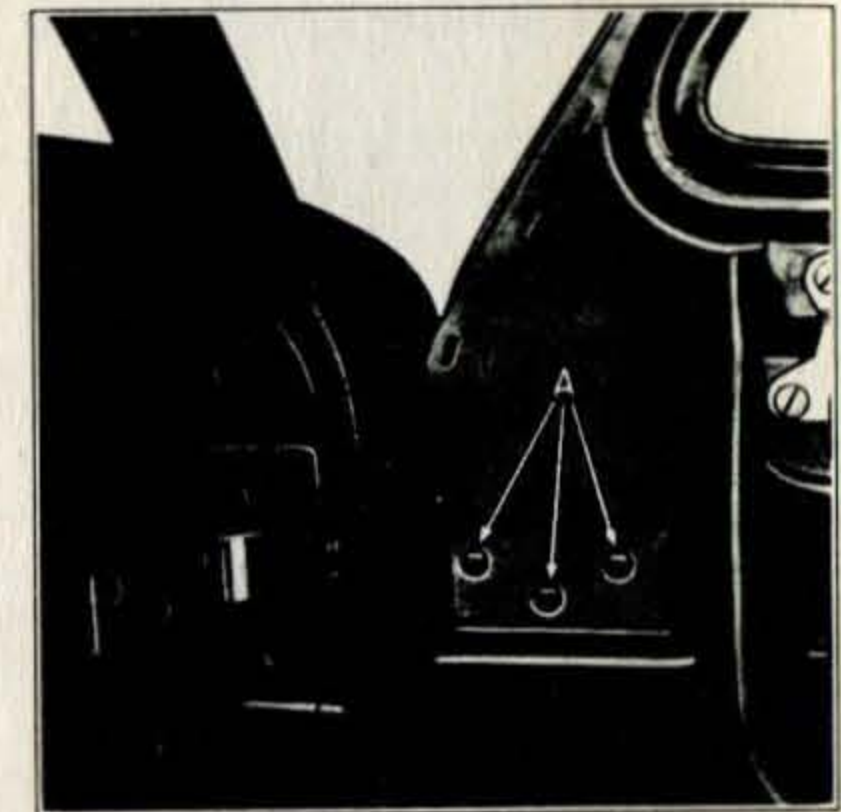

Fig. 11. "G"—"L" Door Concealed Hinge
- All door hinges may be adjusted in or out to bring the door closer or farther away from the body, or they may be adjusted up or down to vertically raise or lower the door. On external type hinges, elongated or oversize holes in the body hinge pillar and door hinge pillar respectively make this possible. In the case of concealed hinges, loosening three  $\frac{3}{8}$ " cap screws in door hinges at "A" Fig. 11, will permit forward and backward adjustment, while shimming behind the hinges will adjust the door in or out.